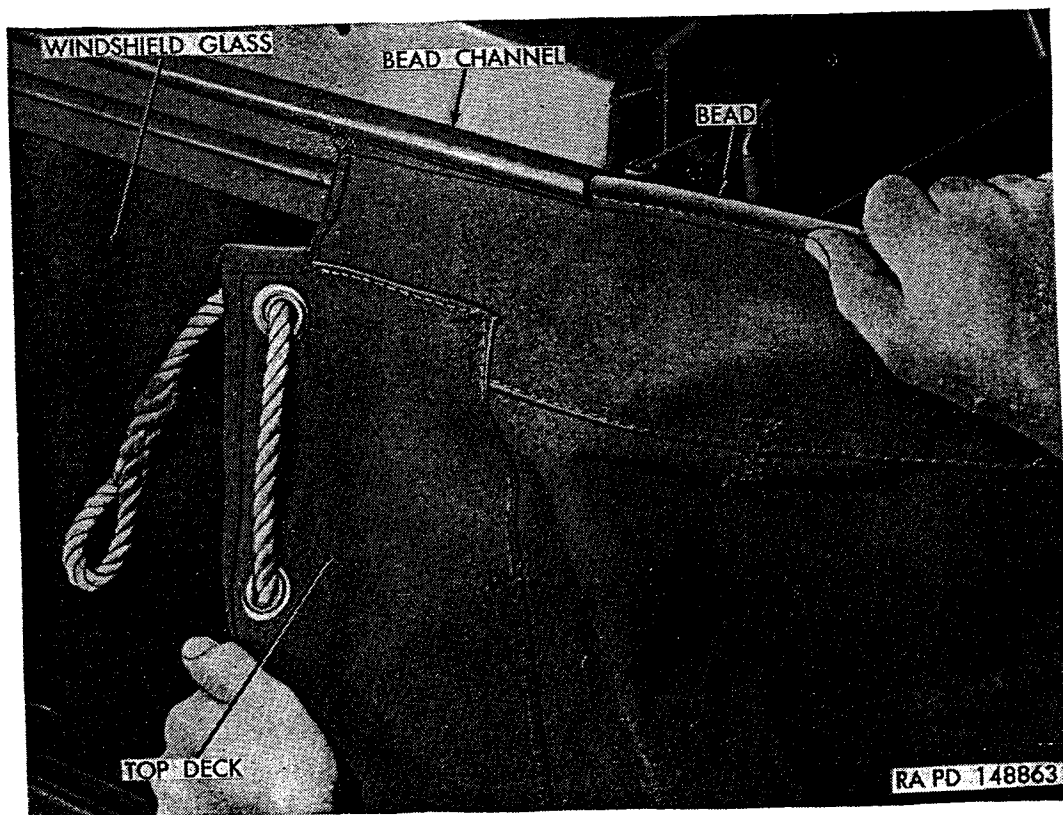

Figure 306. Removing roof paulin from windshield channel.
- (1) *Removal.* Untie roof paulin lashing rope from roof bow ring nut at each side of cab. Pull ropes from loops in sides of rear curtains; then disengage ropes from hooks on roof panels. Unhook rope from lashing hooks on back of cab rear panel. Lift roof paulin over roof bow and windshield onto engine hood. From either side, pull bead of roof paulin from channel (fig. 306) at upper front side of windshield frame.
- (2) *Installation.* Slide bead of roof paulin into channel on upper front side of windshield frame. Draw roof paulin into position over windshield and roof bow. Engage rope in lashing hooks on back of cab rear panel. Pull rear lashing rope taut; then tie rope ends to ring nuts. Engage each side rope in hooks on roof panels, thread ropes through straps in